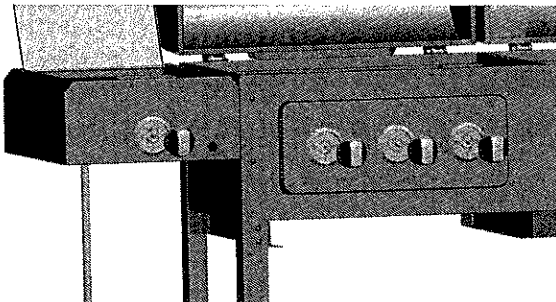

Fig. 15E
Place the sear burner control knob over the valve stem, making sure to align flat portion of both components, and push the control knob over the stem until it is firmly seated. See Figure 15E. Use this same procedure to install the (3) gas control knobs on the gas grill control panel.